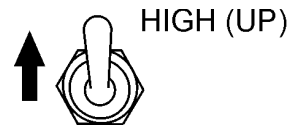

Figure 56. Engine Speed Switch (High)
2. Place the **engine speed switch** (Figure 56) in the **HIGH** position